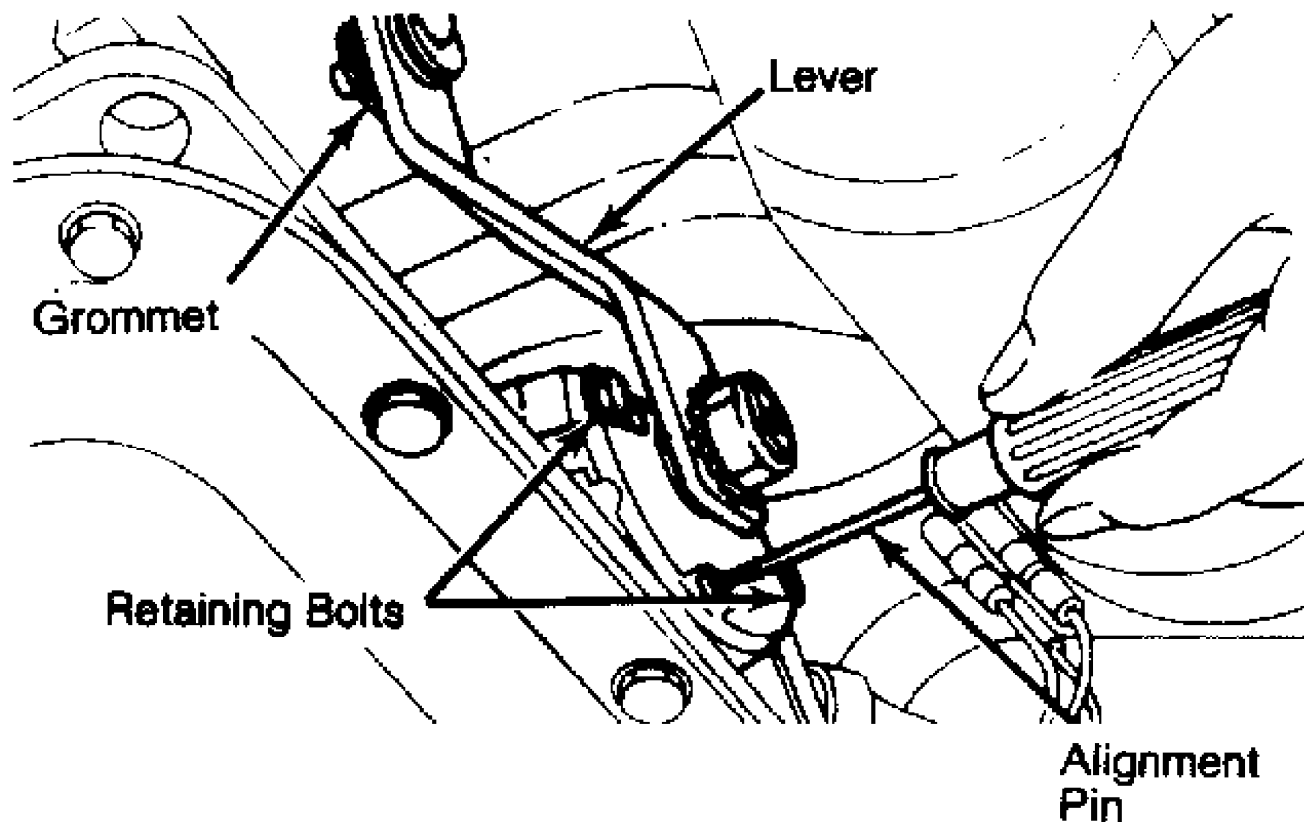

Fig. 6: Adjusting Typical Neutral Safety Switch
2) Remove alignment hole screw at bottom of switch and loosen retaining bolts. Move switch until correct size alignment pin can be inserted in rotor. See NEUTRAL SAFETY SWITCH ALIGNMENT PINS table. Tighten retaining bolts, remove pin and replace alignment hole screw. See Fig. 6.